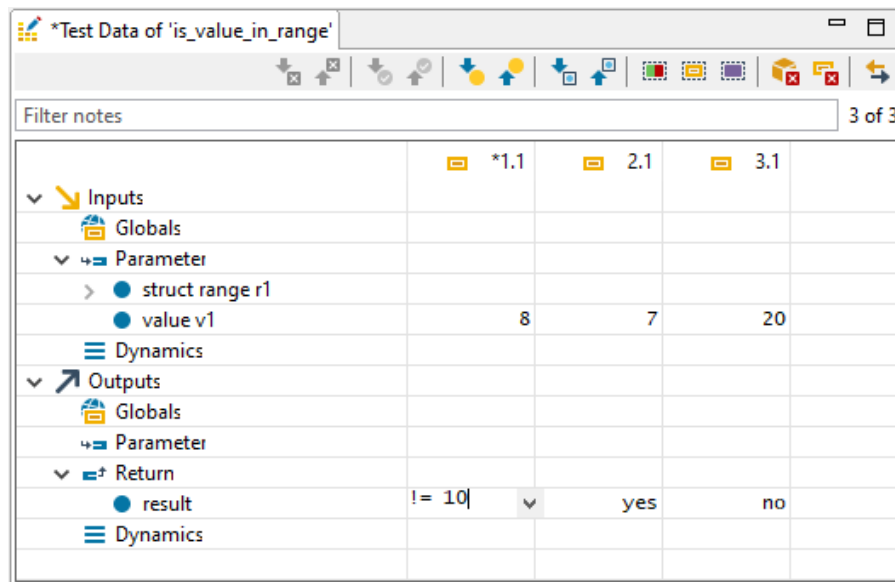

Figure 6.217: Entering evaluation mode “unequal” within the inline editor
- Enter the desired evaluation mode within the inline editor mode (see figure 6.217).